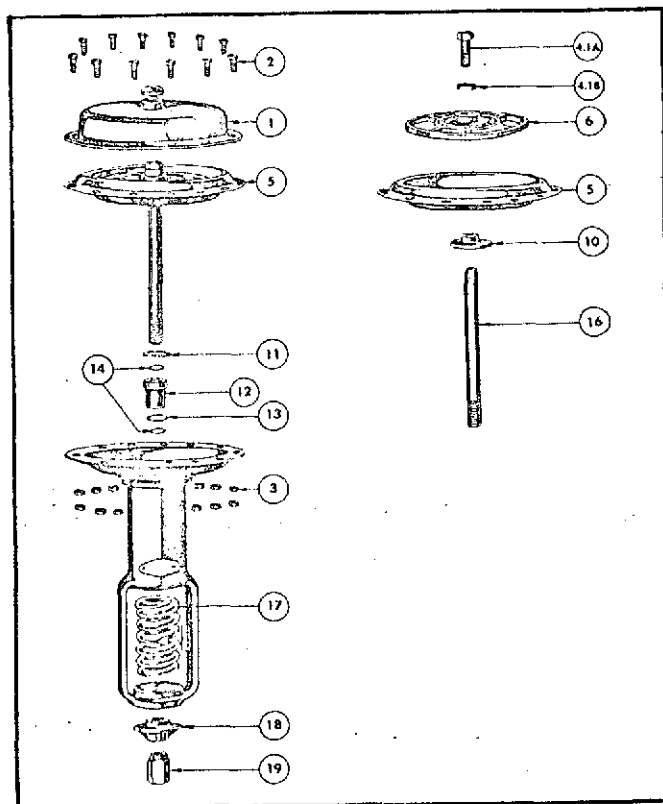
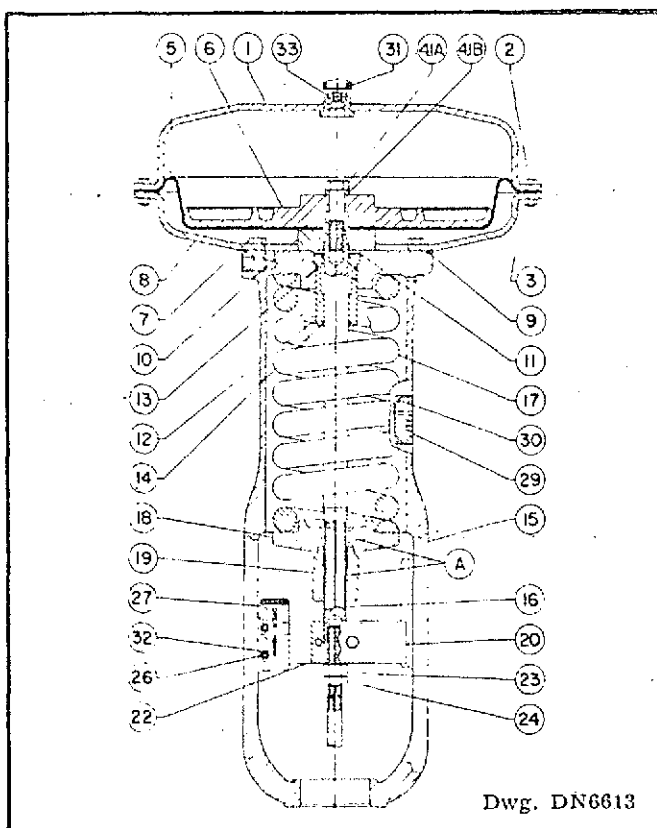

Figure 4—Exploded views of Type 667 actuator and diaphragm plate-actuator stem assembly.
Figure 5—Type 667 actuator, Size 70.
Refer to the exploded drawings in Figure 4 and the assembly drawings in Figures 5, 6 and 7.
6. Install the actuator spring (Key 17) and spring seat (Key 18). Apply Lubriplate No. 130AA lubricant or equivalent to the threads of the actuator stem and to the surface of the spring adjustor (Key 19) which contacts the spring seat. These locations are indicated by "A" on the assembly drawings in Figures 5, 6 and 7. Thread spring adjustor on the actuator stem.